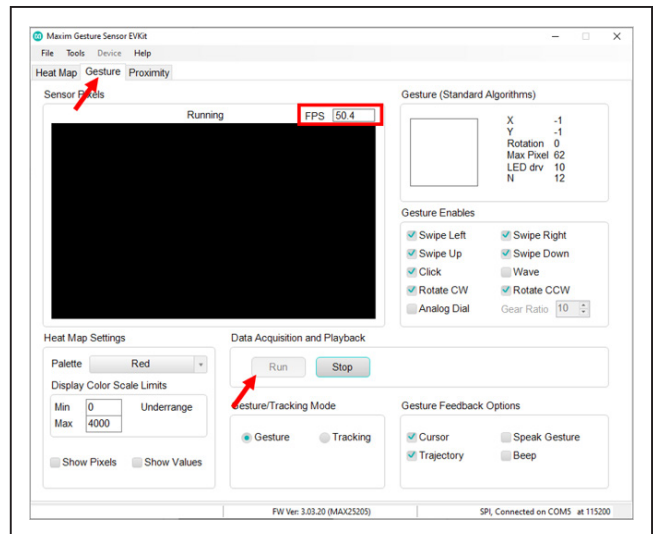

Figure 4. Gesture Tab
- 8) Click **Run**. If everything is working correctly, the GUI should report a non-zero frames-per-second (FPS) reading (see Figure 4).